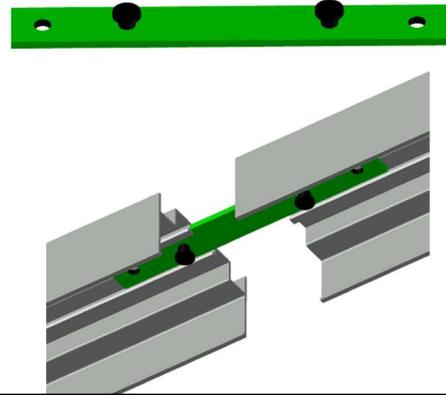

Fig. 4
3. Attach Flex Track to the ceiling. Fig. 4.